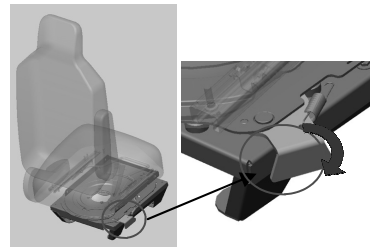

FIG 1.
3. Pull the latch away from the seat base to unlock seat from the driving position. The seat is now unlocked and ready to be moved. (FIG 1.)